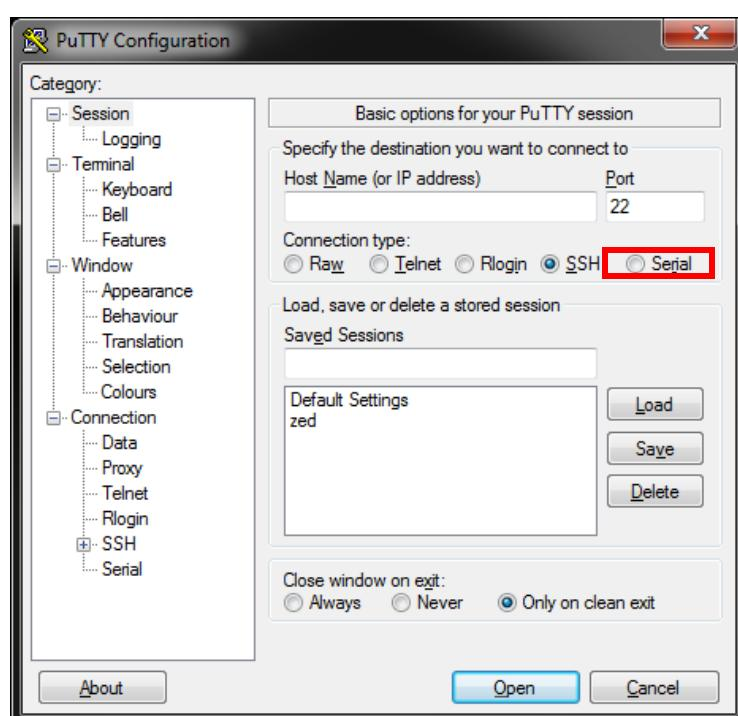
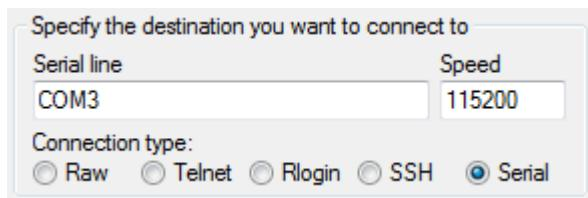

Figure 5.20: PuTTY
Figure 5.21: PuTTY configuration
(w) *PuTTY Configuration* should open, as shown in Figure 5.20.
- (x) Select **Serial** as *Connection type* (highlighted in Figure 5.20) and configure the settings as specified in Figure 5.21.